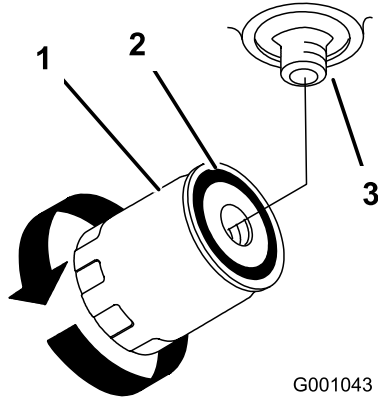

Figure 71
3. Apply a thin coat hydro fluid to the rubber gasket on the replacement filter (Figure 71).
7. Fill the hydraulic tank with hydraulic fluid until the fluid overflows the filter and then turn the oil filter clockwise until the rubber gasket contacts the filter adapter, then tighten the filter an additional 1/2 turn (Figure 71).